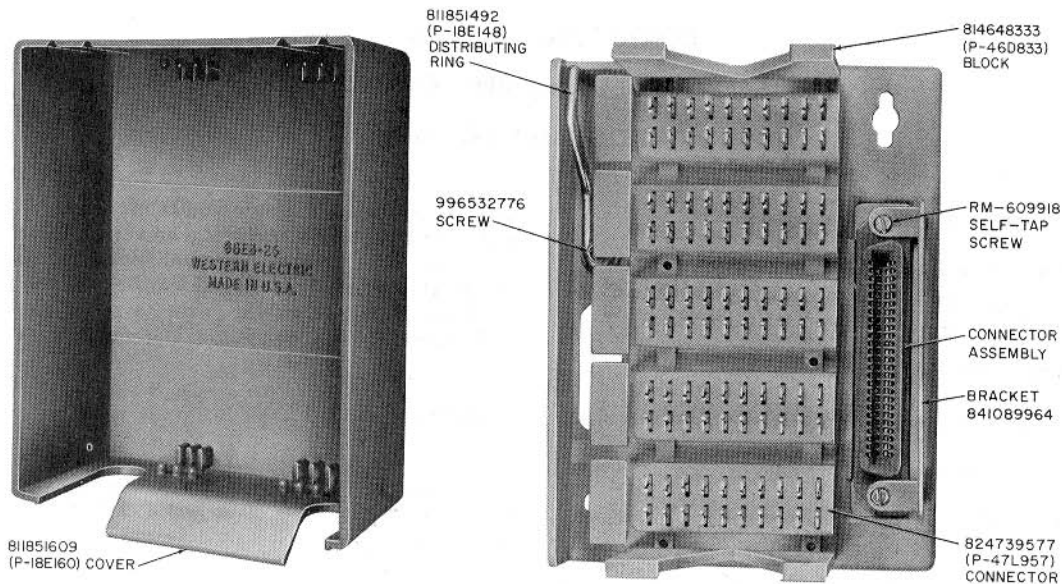

Fig. 1—66E3-25 Connecting Block
2.03 The 66E3-25 connecting block (Fig. 1) is equipped with a molded plastic housing incorporating a snap-on cover and a cable trough in the base. The block should be mounted on a firm flat surface. Provisions are also made for mounting the block to a standard wall outlet box or overfloor duct by using a 152A adapter.
2.06 A new bracket design has been incorporated on the 66E3-25 and 66E4-25 connecting blocks for attaching both the low and high silhouette plug or connectors. The new bracket 841089964 (Fig. 1), which contains a diagonal slot, replaces the present P-21E608 bracket. The new slot provides improved retention of the connector and plug to eliminate accidental disengagement resulting from external movement of the cord or connector cable.
3.05 On 66E3-25 and 66E4-25 connecting blocks, field replacement of the old retainer bracket (P-21E608) with the new retainer bracket (841089964) can be accomplished by removing two easily accessible RM-609918 button-head self-tapping screws (Fig. 1), removing the old bracket, installing the new bracket, and replacing the two screws. Attach retainer to bracket with 824634729 (P-46L472) RD washerhead screw.